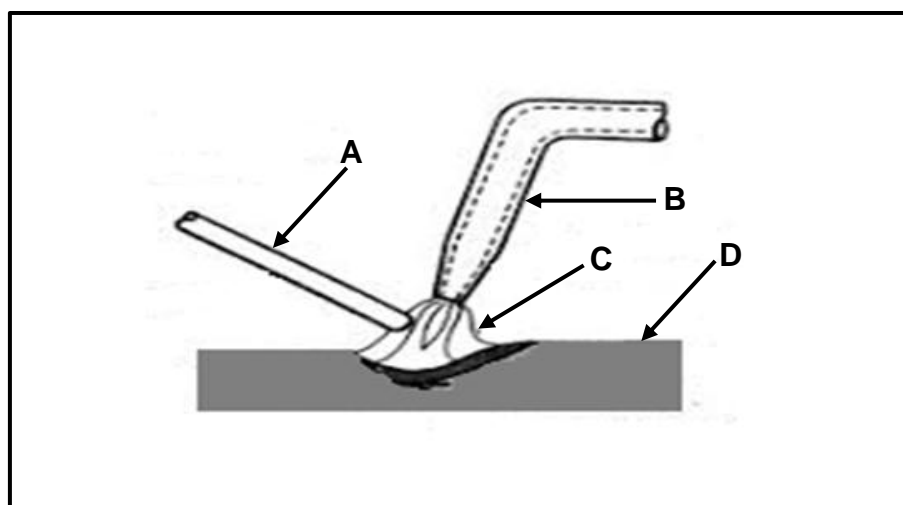

FIGURE 6.4
6.4 FIGURE 6.4 below shows gas welding in progress. Label parts **A–D**.